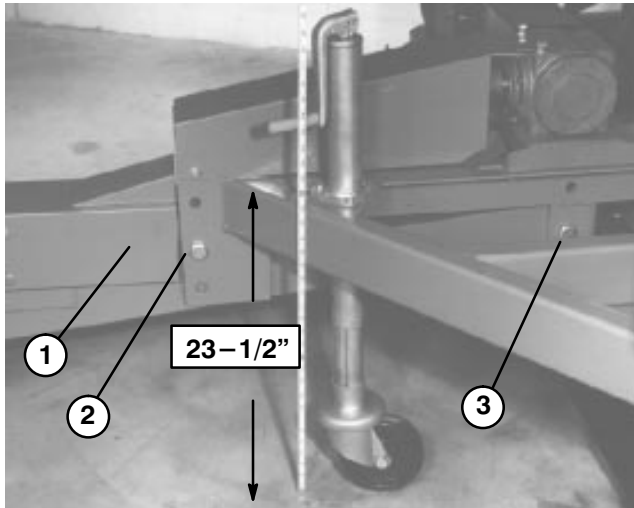

Figure 2
A. Remove front and rear capscrews and locknuts securing hitch tongue to frame (Fig. 2).
B. Raise or lower hitch tongue to position it approximately level with prime move hitch and secure with (2) capscrews and locknuts. The main frame should be parallel with the ground surface about 23–1/2" when attached to tractor.